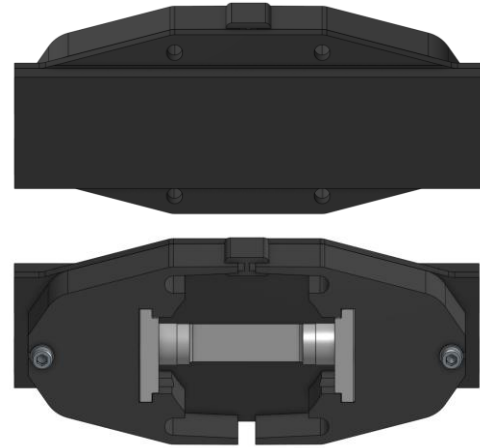

Figure 9
- Place manifold on top heads. It may be necessary to shift heads around on plunger to have valves align with valve pockets on manifold. Be careful to not lose the white washers in the manifold during reassembly. See Fig. 9.
- Turn assembly over and place bolt and washer assembly into heads and tighten finger tight. DO NOT tighten completely at this time. See Fig. 9.
- Apply remaining grease from included packet into corners and center of plunger slot as shown in Figure 9.